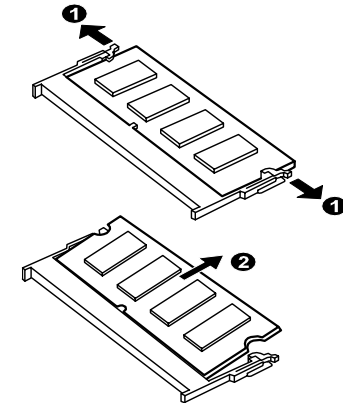

Figure 7-12. Removing the SO-DIMM
1. To install the SO-DIMM, align the SO-DIMM's notched end with the socket's corresponding end and firmly insert the SO-DIMM into the socket at an angle. Then push down until the retaining clips lock the SO-DIMM into position. (Refer to Figure 7-12 )